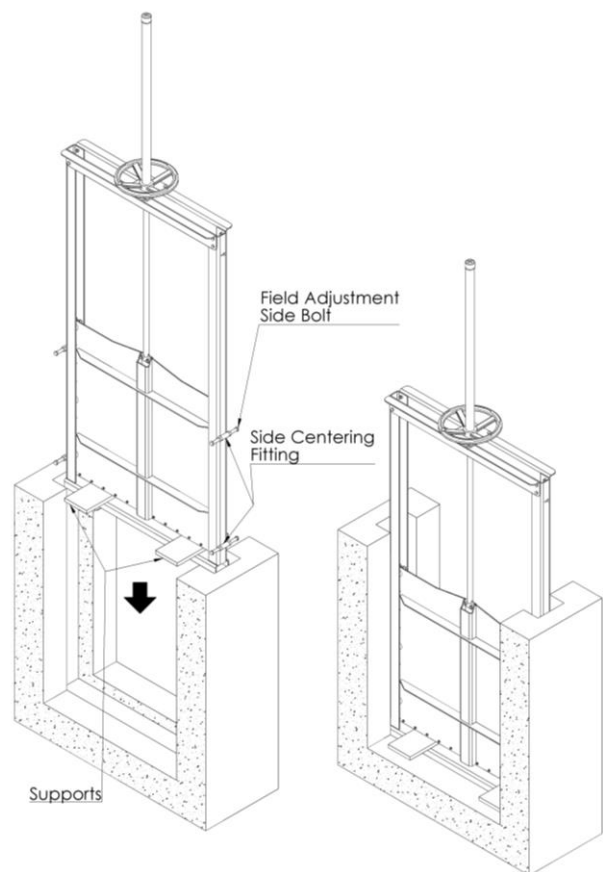

Figure 4
- Get two parts as support in order to levelling the channel gate vertically (“Supports”). Rise the slide enough to introduce the two supports between the frame and slide and close the slide to fix the supports (See Figure 4)
- Proceed with “Step 2”. When the gate is positioned in the recess, the supports will maintain the frame invert flush with the invert of the channel (See Figure 4)